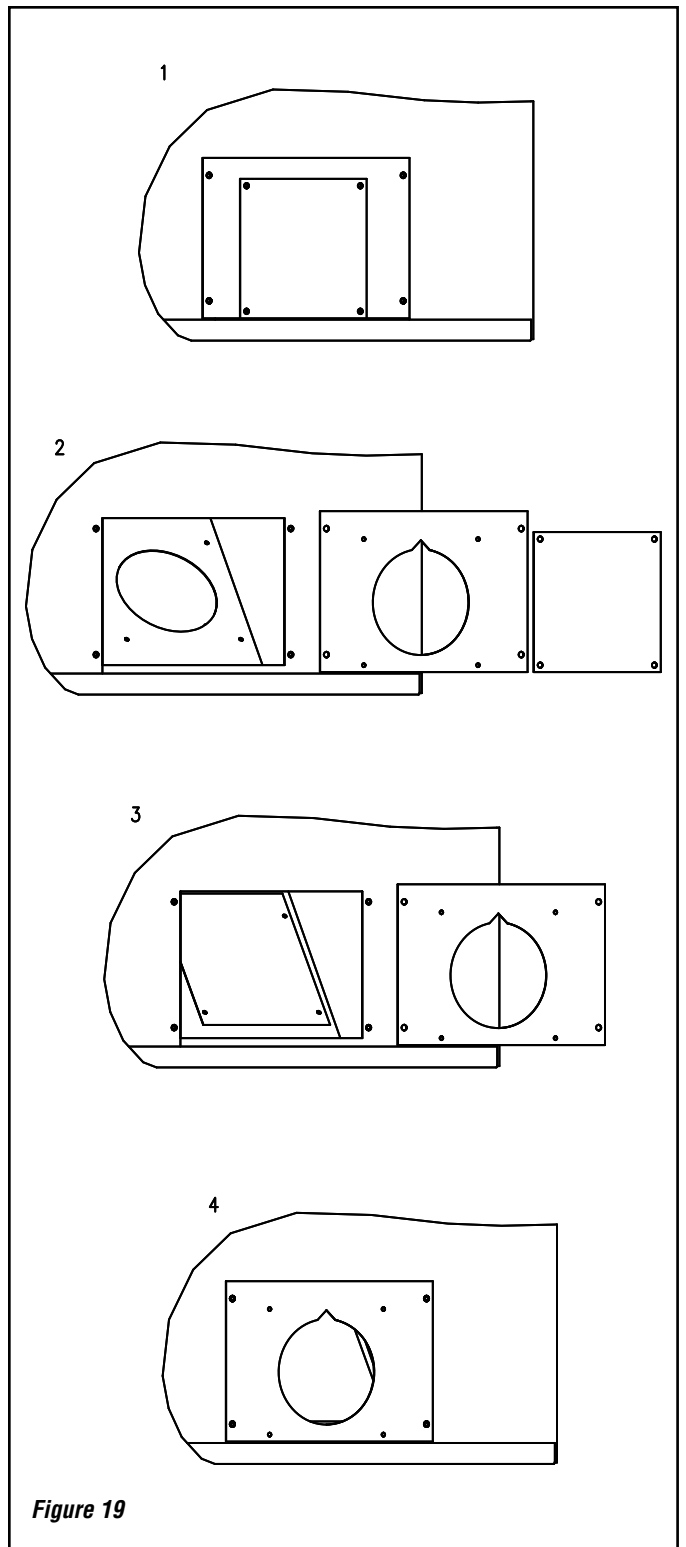

Figure 19
1. Remove the obstruction plate and the access plate (both are super-impose) located on the bottom of the left side (**Figure 19, part 2**).
2. Screw the obstruction plate inside the primary air box using only two screws on the bottom (**Figure 19, part 3**).
3. Reinstall the access plate exposing the 5 inch diameter hole topped by a triangle (**Figure 19, part 4**).